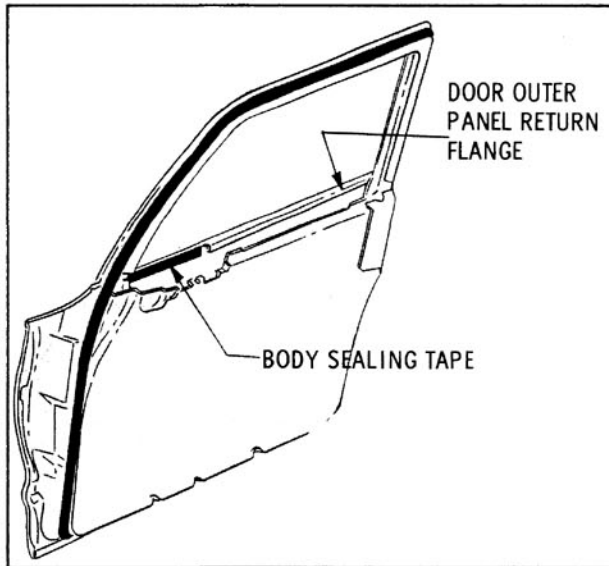
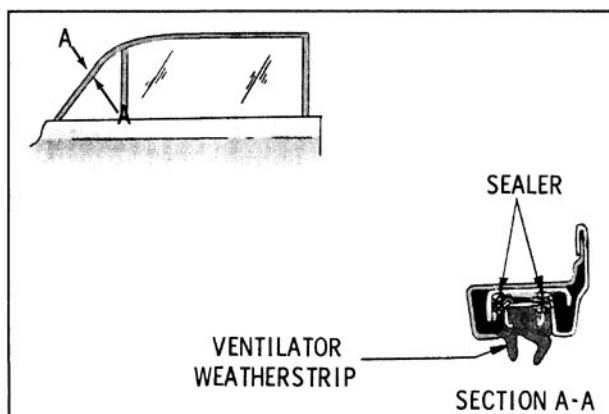

Fig. 16-43 Ventilator Sealing
Fig. 16-44 Ventilator Sealing
- To install, reverse removal procedure. Prior to installation, however, apply a strip of body waterproof sealing tape to door outer panel return flange along area contacted by ventilator weatherstrip. (Fig. 16-43) Also, apply a double bead of sealer (body caulking compound) in door upper frame at ventilator area as shown in Section A-A of Fig. 16-44.